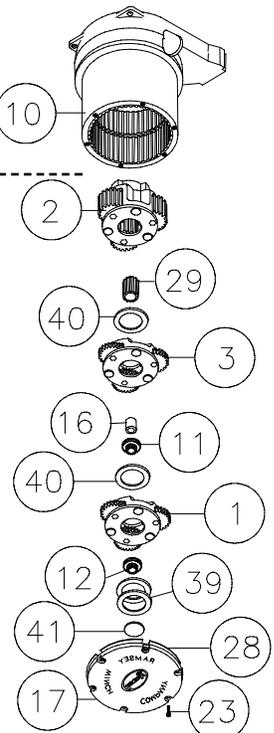
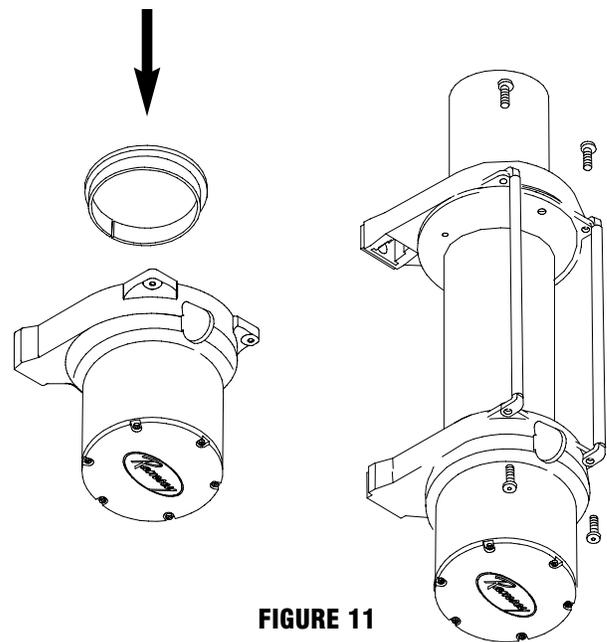

FIGURE 8
FIGURE 11
3. Gently lift the Gear Housing assembly, working the gears, bushings, etc. that are inside the Gear Housing out so that they are left stacked on the workbench. See Figure 8.
4. Turn the Gear Housing assembly over and set on workbench. Remove the Retainer (item #37) by removing six capscrews (item #21) from Gear End Bearing (item 13). Once the retainer is removed, the Ring Gear (item #10), Cam Ring (item #36), and Locking Ring (item #34) can be lifted off the end bearing.
8. Reassemble Gear Housing as shown in Figure 8. Make sure locking ring is positioned with stop post at marked location. The capscrews (item #38) for the retainer should be tightened to 40-45 in-lbs. **Do not over-tighten.**
9. Place Gear Housing over the stacked gears, etc. that you removed in step 3. Gently work the housing over the stack, turning it as needed to mesh the planetary gears with the ring gear in the housing. Once they are all in the housing, flip the assembly over. Align the Gear Housing Cover and gasket with the holes in the ring gear. Replace the (6) capscrews that hold the Gear Housing Cover onto the Gear Housing. Tighten securely.
11. Turn the Gear Housing over and set it on the work bench with the Gear Housing Cover down. See Figure 11.
13. Place the tiebars on the motor end and gear end and fasten using (4) screws. Tighten securely.